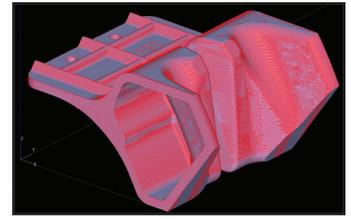

Figure 87: Open and slice the second part. (Example duplicates a single part.)
6.2.2. Open and slice Part 2 (Figure 87).